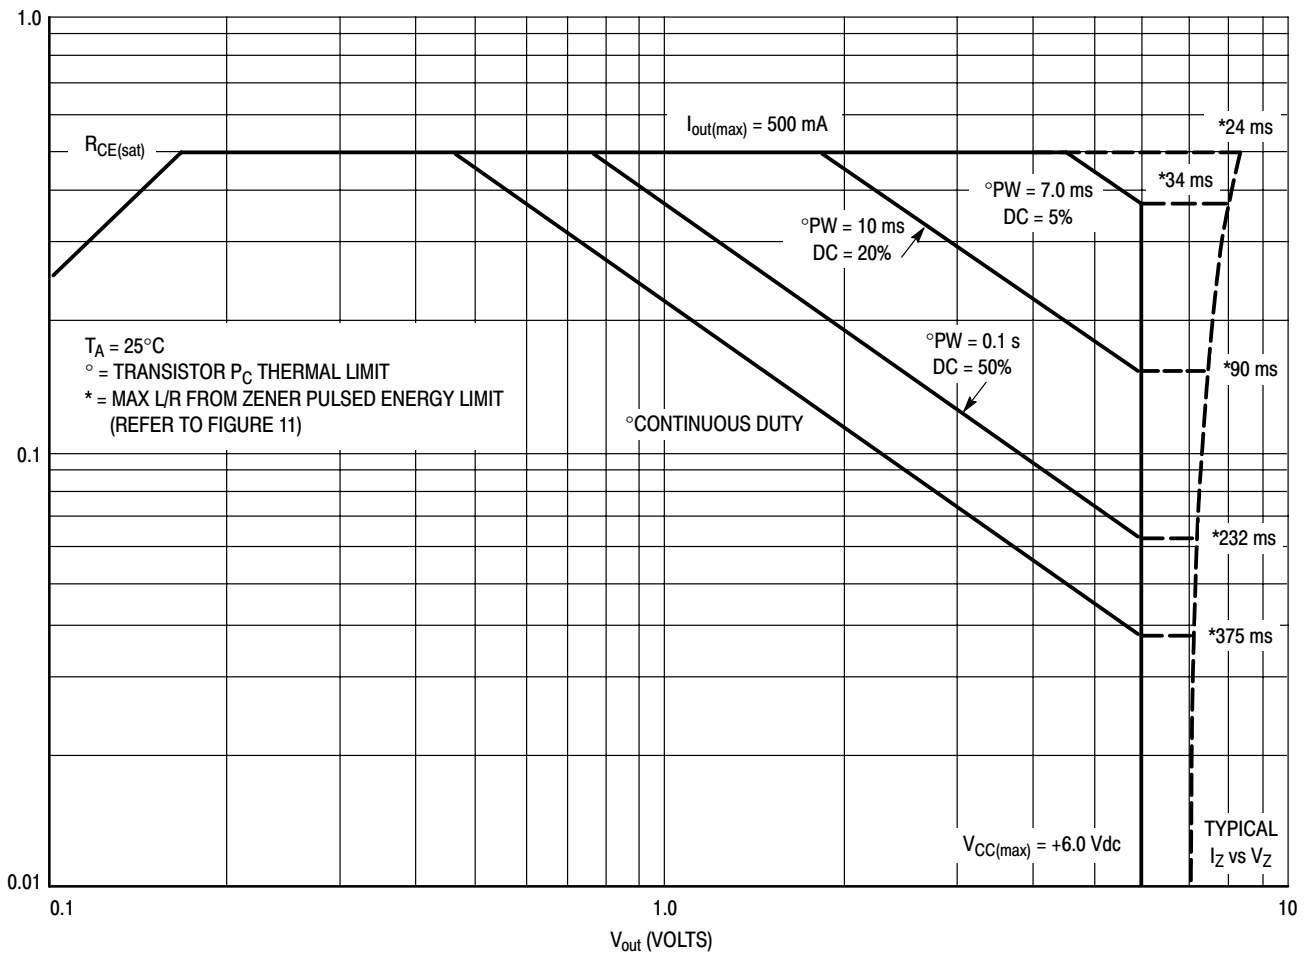
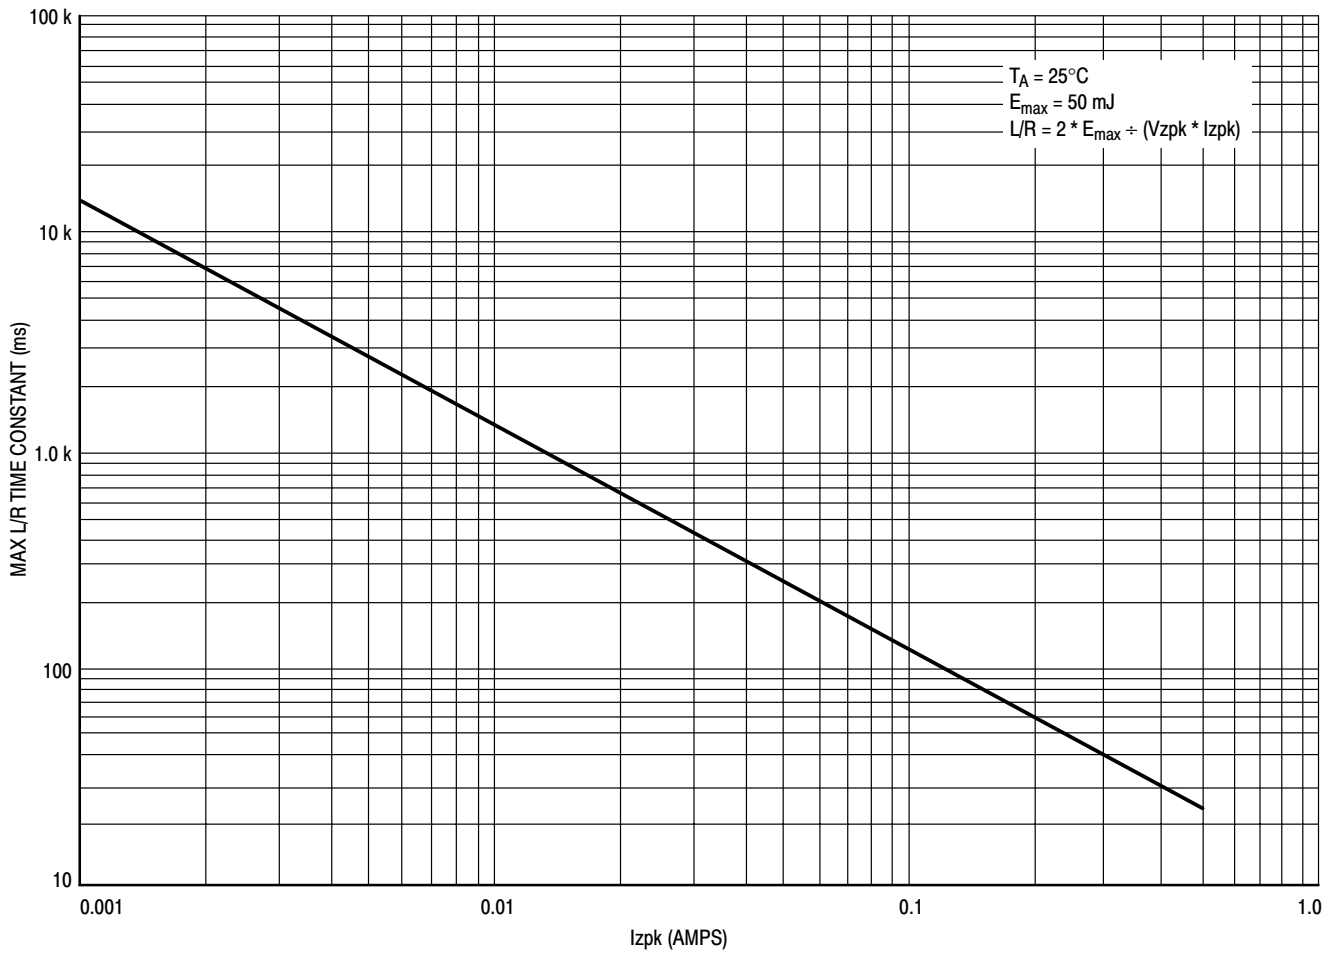

Figure 10. Safe Operating Area
Figure 11. Zener Repetitive Pulse Energy Limit on L/R Time Constant
Figure 10 is the Safe Operating Area (SOA) for the MDC3105LT1. Device instantaneous operation should never be pushed beyond these limits. It shows the SOA for the Transistor "ON" condition as well as the SOA for the zener during the turn-off transient. The max current is limited by the  $I_{zpk}$  capability of the zener as well as the transistor in addition to the max input current through the resistor. It should not be exceeded at any temperature. The BJT power dissipation limits are shown for various pulse widths and duty cycles at an ambient temperature of  $25^{\circ}C$ . The voltage limit is the max  $V_{CC}$  that can be applied to the device. When the input to the device is switched off, the BJT "ON" current is instantaneously dumped into the zener diode where it begins its exponential decay. The zener clamp voltage is a function of that BJT current level as can be seen by the bowing of the  $V_Z$  versus  $I_Z$  curve at the higher currents. In addition to the zener's current limit impacting this device's 500 mA max rating, the clamping diode also has a peak energy limit as well. This energy limit was measured using a rectangular pulse and then translated to an exponential equivalent using the 2:1 relationship between the L/R time constant of an exponential pulse and the pulse width of a rectangular pulse having equal energy content. These L/R time constant limits in ms appear along the  $V_Z$  versus  $I_Z$  curve for the various values of  $I_Z$  at which the  $Pd$  lines intersect the  $V_{CC}$  limit. The L/R time constant for a given load should not exceed these limits at their respective currents. Precise L/R limits on zener energy at intermediate current levels can be obtained from Figure 11.
3. Use Figures 10 & 11 with the SOA notes above to insure that instantaneous operation does not push the device beyond the limits of the SOA plot.